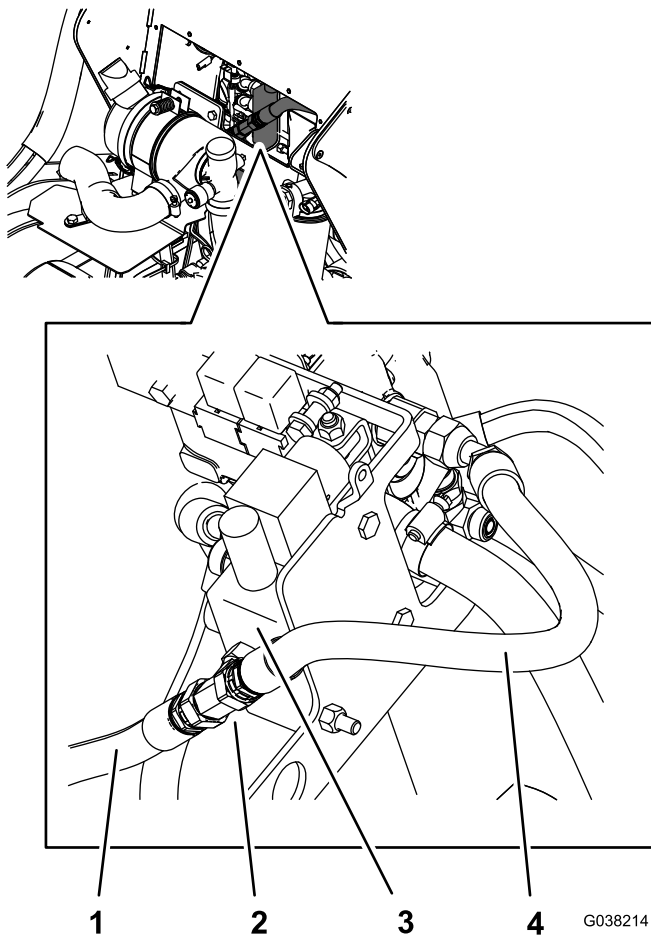

Figure 7
1. Remove and discard the short hose shown in Figure 7.
3. Disconnect the pump hose from the tee fitting, and plug the hose (Figure 7).